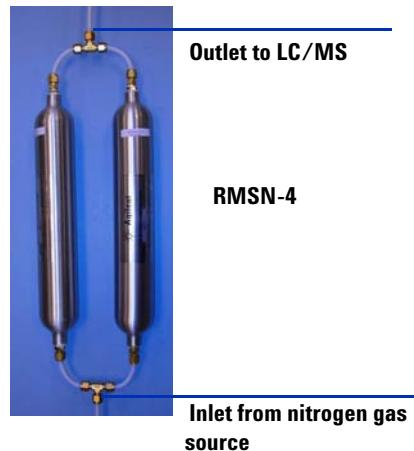

Figure 11 Gas filter connected in parallel
- e** Connect two of the 4 inch lengths to each side of the T-unions. Use the supplied nut and ferrule kit (5183-0392) to attach the other side 4 inch the tubing to the two RMSN-4 gas filters. This configures the filters in parallel. See Figure 11 as an example for assembling the gas traps in the correct configuration.